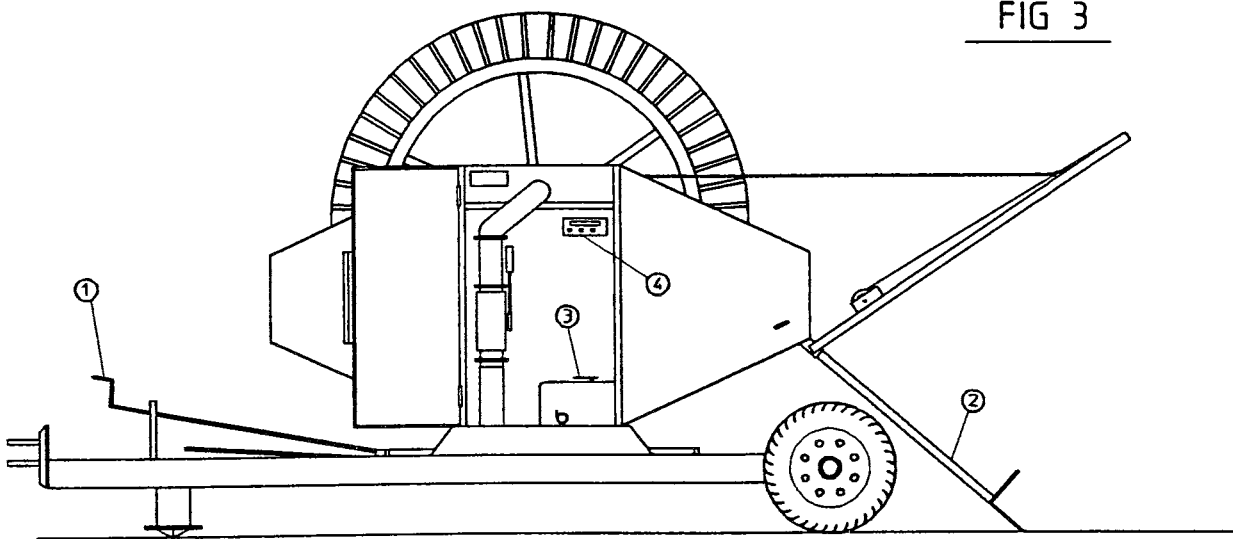

FIG 3
- * 4 Lower the supporting legs and force them into the ground, (fig. 3, pos. 2). On type 3-4-5 TT² the supporting legs are fixed with the handle which is found in the door.
- * 7 Push the engaging lever (clutch) into "FRI" ("FREE"), (fig. 3, pos. 3)